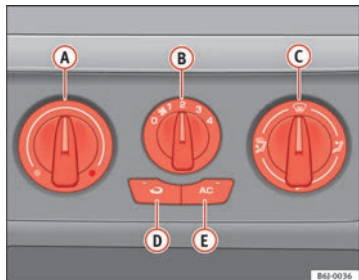

Fig. 103 Air conditioning controls on the dash panel
- Disconnect the cooling system using button ⇒ fig. 103 (the button light turns off).
When air recirculation mode is switched on (button  *⇒* fig. 103  with warning lamp) strong odours in the outside air do not enter the vehicle interior, for example when passing through a tunnel or in a traffic jam.